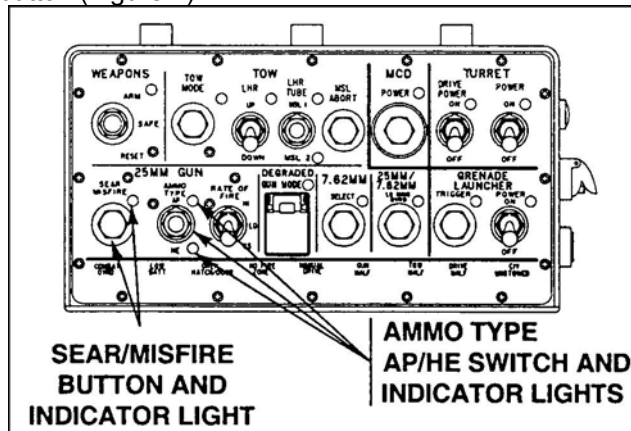

Figure 2. SEAR/MISFIRE button and indicator light.
4. Press the MISFIRE button (Figure 2).